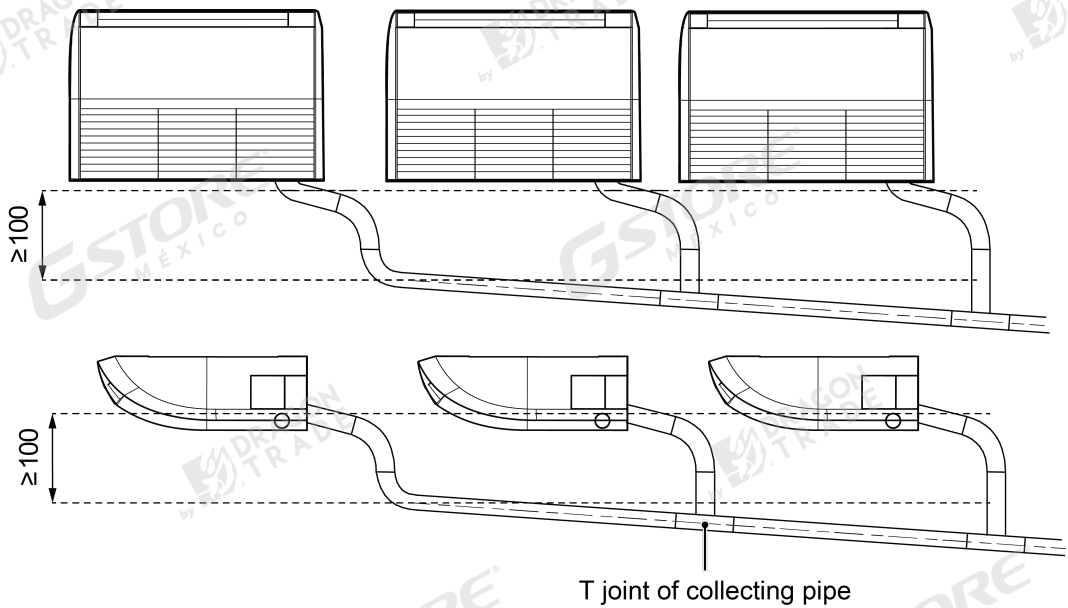

Fig.4.3.2.1
- (1) Drainage pipe should have the same diameter or larger diameter than the connection pipes (PVC pipe, outside diameter 17mm, thickness $\geq$ 1.75mm).
- (2) Keep drainage pipe short and sloping downwards at a gradient of at least 1% for preventing forming air bubbles.
- (3) Insert the drainage hose into drain socket, tighten the metal clamp securely.
- (4) Warp the sealing pad over drain hose and metal clamp for heat insulation.
- (5) Make sure to perform insulation work for all drainage piping in order to prevent any possible water drop due to dew condensation.
- (6) Apply the suitable diameter for converging drainage pipe according to the operating capacity of the unit, as shown in Fig.4.3.2.1.